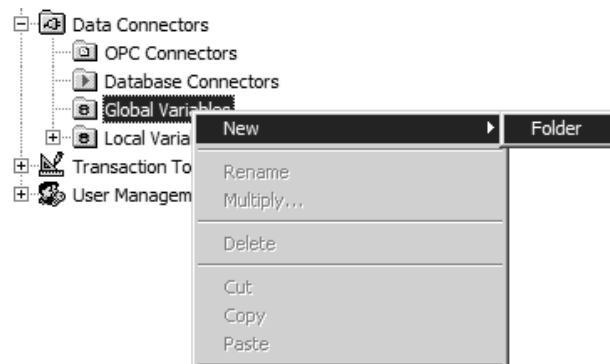

Figure L3.1 - Database to OPC transaction overview
1. Open the BridgeWorX configurator and expand the **Data Connectors** tree control one level. Right click on the **Global Variables** folder and select **New → Folder**, as shown in Figure L3.1.